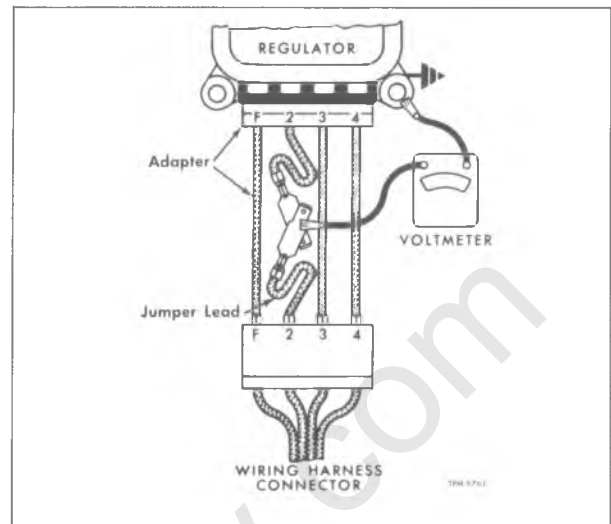

Figure 9—Testing Regulator Field Relay (Two-Unit Type Regulator)
1. Make connections to the regulator and connector terminals as shown in figure 9.